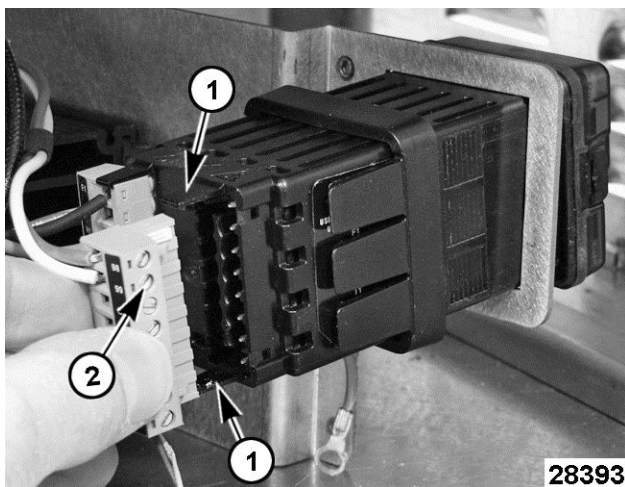

Fig. 45
5. Lift the locking tabs [1] Fig. 45 on PID controller to unlatch the wire connection strips then remove the strips [2] Fig. 45 from PID controller as shown.